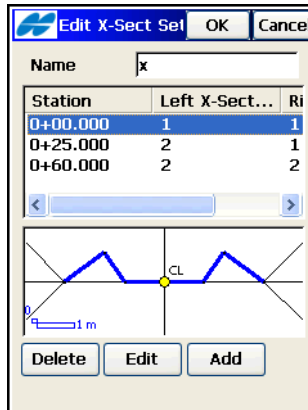

Figure 7-26. Add Cross Section Set
1. On the *X-Sect Set* screen, tap the **Add** button to add a new cross-section set. The *Edit X-Sect Set* screen displays (Figure 7-26 on page 7-22).
2. On the *Edit X-Sect Set* screen (Figure 7-26), enter the name of the cross-section set and tap the **Add** button,